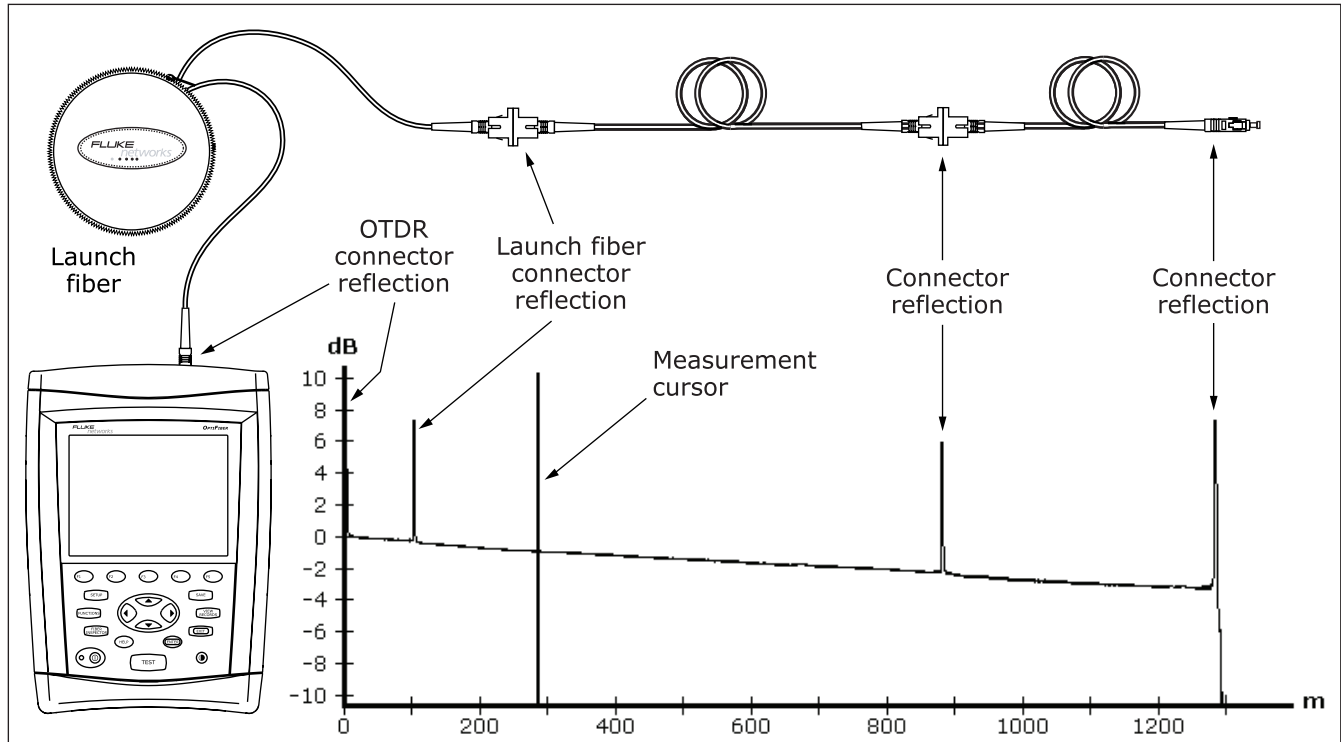

Figure 2-1. Typical OTDR Connections and Trace Features
4-2. Connect the launch fiber to the tester and to the cabling. Figure 2-1 shows these connections and typical features on an OTDR trace.
- To see the OTDR trace, press **F1** **View Trace**. Figure 2-1 shows some features of a typical OTDR trace.